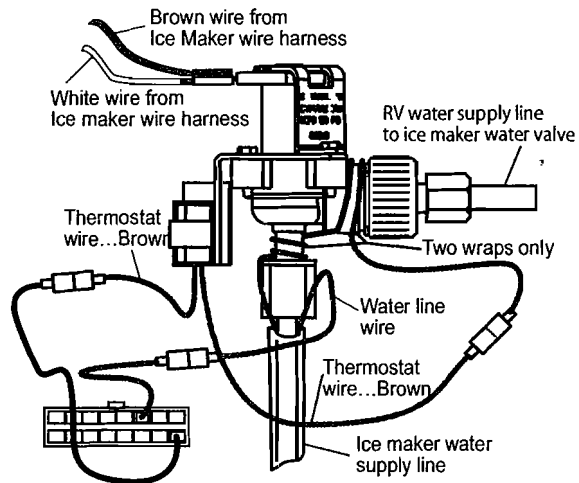

Figure 20. Ice maker water valve connections.
- Wrap the water line heater wire to the valve body as shown in Figure 20.
- Reconnect the water line heater to thermostat and power board. See Figure 20.
- Connect ice maker harness brown wire to water valve solenoid. See Figure 20.
For ease of installation, Figure 20 labels freezers' evaporator plate screws 1 through 8. Screws 1, 2 and 7 are one inch long. Screws labeled 3, 4, 5, 6 and 8 are 3/8 inch long.
- Align and install evaporator plate screws along with flat washers. See Figure 20 and follow steps **a** through **d**.